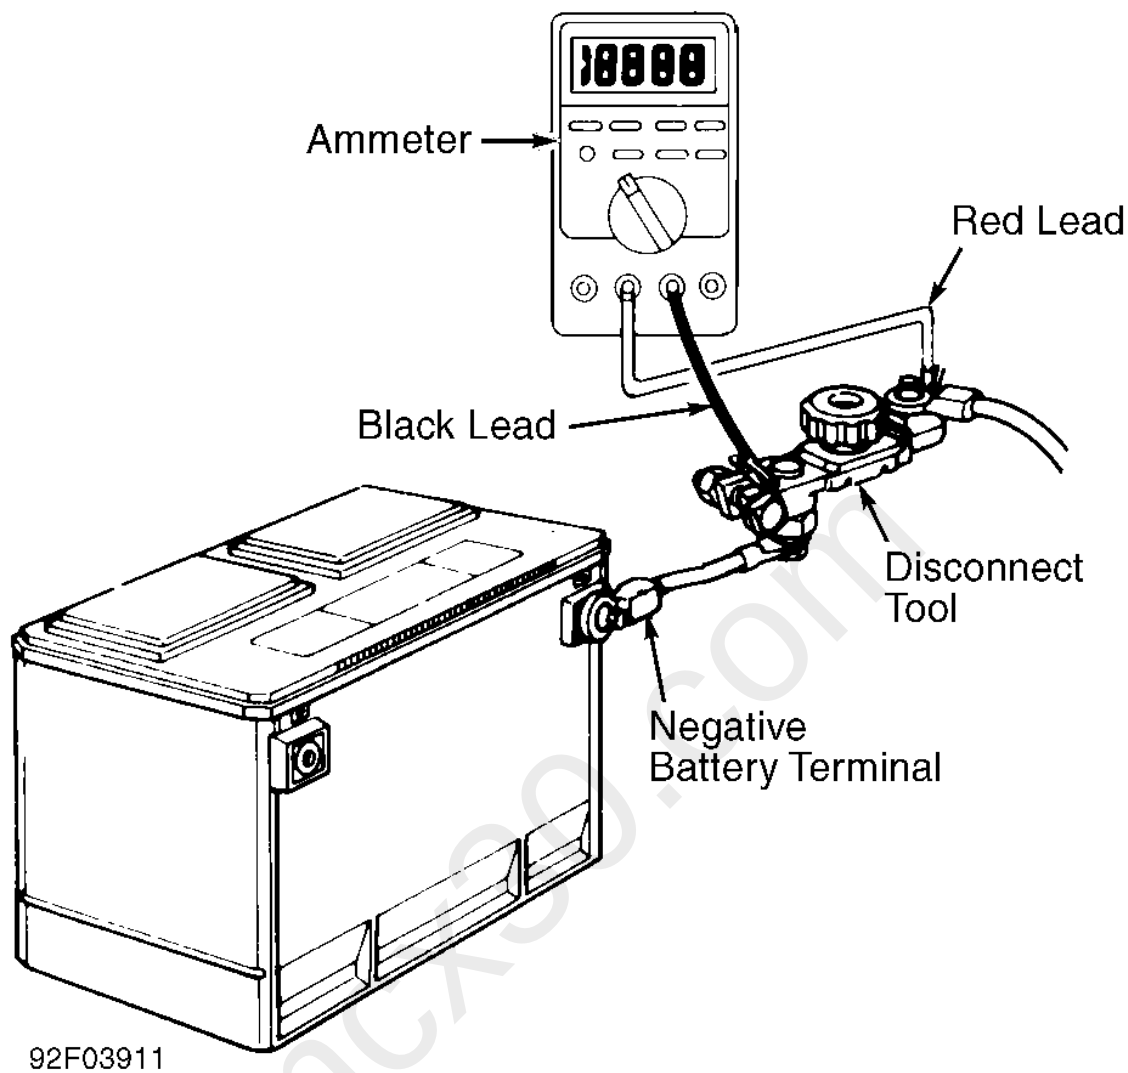

Fig. 1: Connecting Kent-Moore Disconnect Tool (J-38758).
2. Turn test switch knob to ON position (current through switch). Road test vehicle with vehicle accessories on (radio, air conditioner, etc). After road test, turn ignition switch to LOCKED position and remove key. Connect ammeter terminals to test switch terminals. See Fig. 1. Select 10-amp scale.
To find an intermittent problem requires that an ammeter and Disconnect Tool (J-38758) test switch be connected and left in the circuit. See Fig. 1. Road test vehicle. After road test, turn ignition off and remove key.